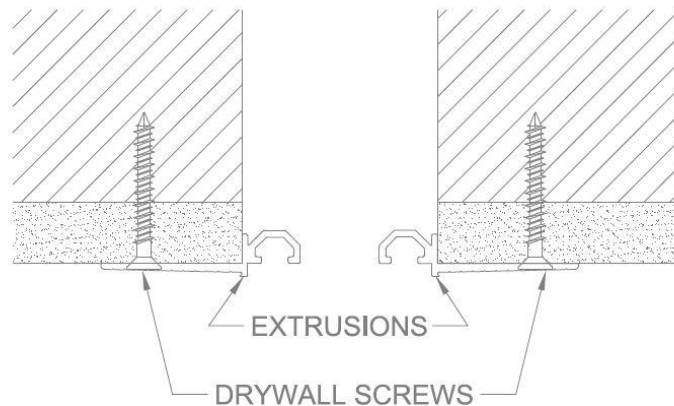

FIGURE 1
1. Position base member frames in expansion joints per shop drawings. Attach with screws (by installer) through the gypsum wallboard and into the structural support. If attaching into concrete, use the frames as a template, mark, and drill  $\text{Ø}5/32$ " holes in the concrete. Install base member frames with  $\text{Ø}3/16$ " Tapcon fasteners (by installer). **See Figure 1.**